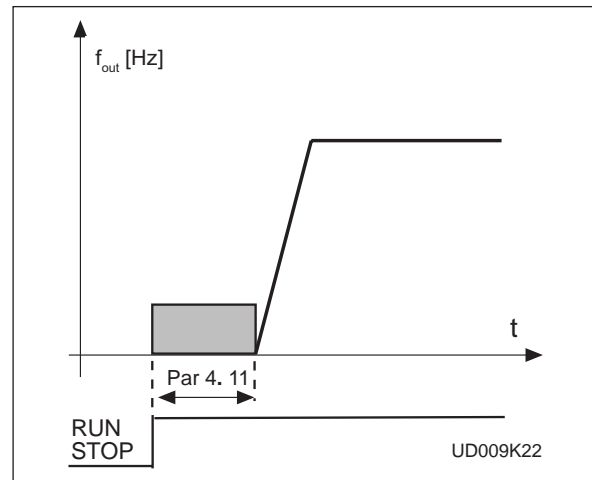

Figure 6.5-15 DC-braking time at start
- >0** DC-brake is active when the start command is given. This parameter defines the time before the brake is released. After the brake is released the output frequency increases according to the set start function parameter 4. 6 and acceleration parameters (1. 3, 4. 1 or 4. 2, 4. 3), see figure 6.5-15.